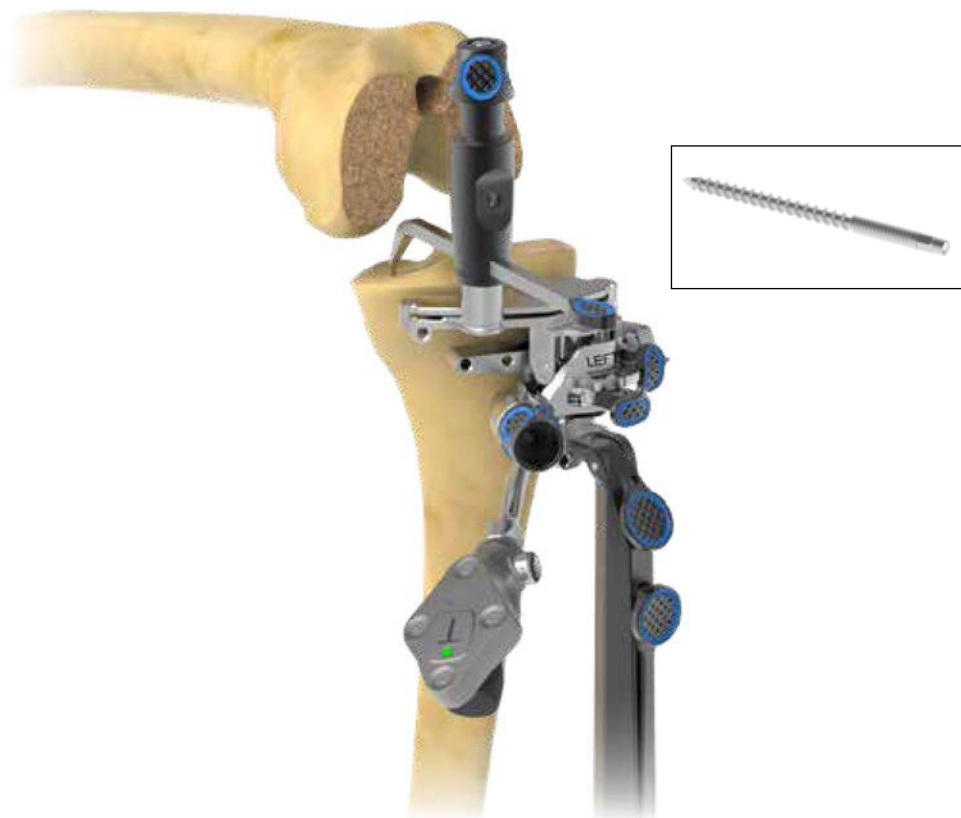

Figure 31
Attach the Tibial Tracker (T) to the TKA Plus Tibial Resection Guide and lock into place. (Figure 31). Make sure the tracker is facing toward the camera.